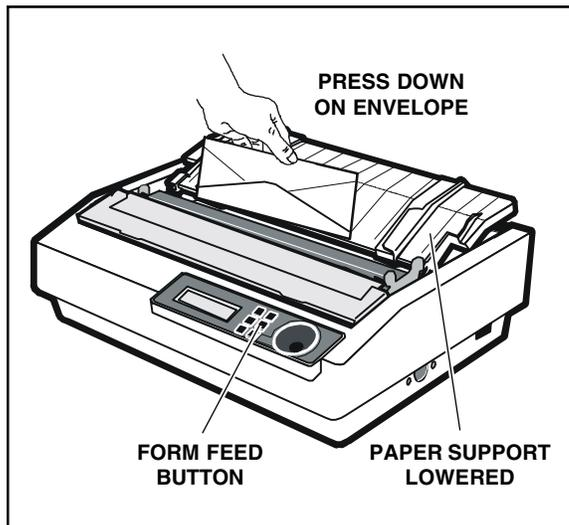

Figure 3-10. Loading Envelopes
- ✓ Before loading envelopes, install the paper support in the lowered position, as shown in figure 3-10.
- ✓ Load envelopes with the longest edge parallel to the platen, as shown in figure 3-10. This is usually referred to as *horizontal orientation*.